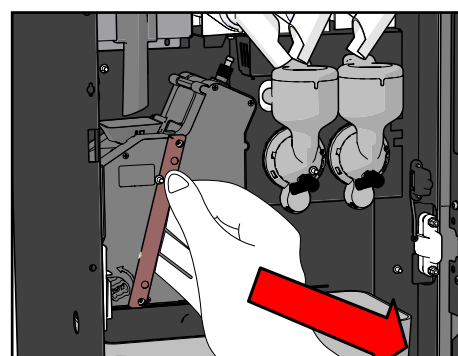

Figure 42.
8. Take the brewer out of the machine by the handle (see Figure 42).
19. Detach the outlet arm and take the brewer out of the machine by the handle (Figure 42).